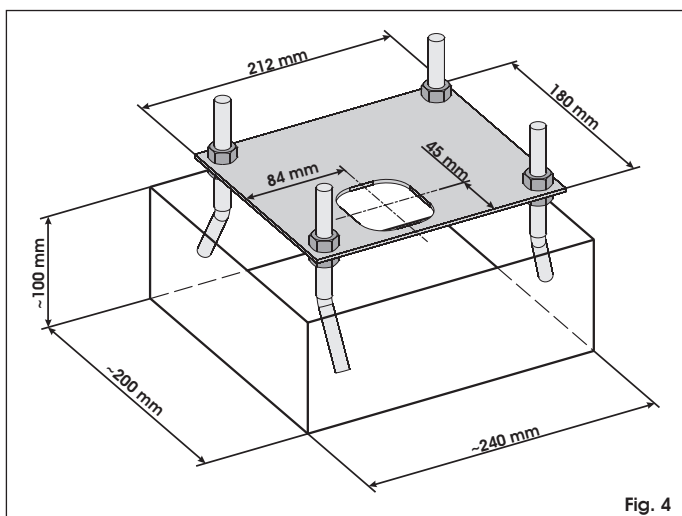
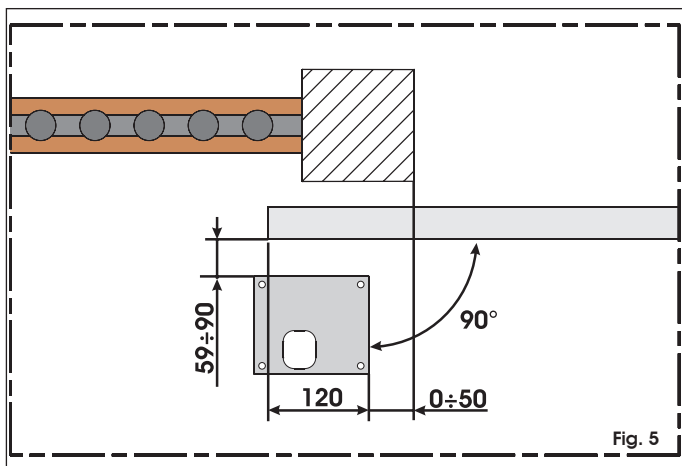
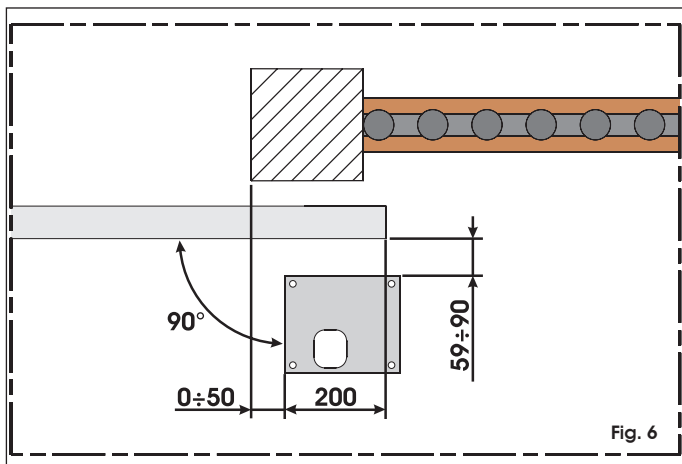

Fig. 4
Fig. 5
Fig. 6
- Dig a cavity for the foundation plate as shown in Fig. 4. The foundation plate must be located as shown in Fig. 5 (right closing) or Fig.6 (left closing) to ensure correct meshing between rack and pinion.
2) The operator is supplied for installation with the gate closing on the right of the operator (looking from the inside) (fig. 5). If you require left-hand closure, change over the connection of the cables connected to the terminals of the motor.